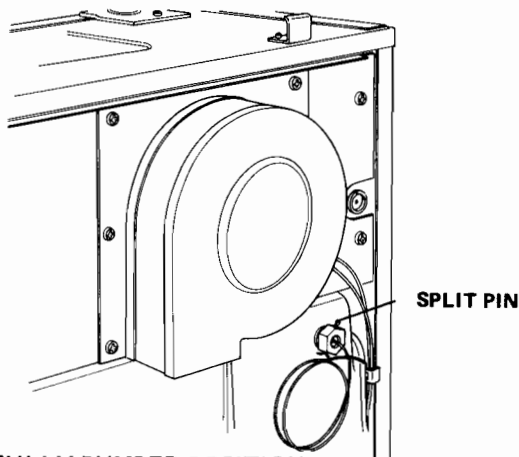

FIG. 21A FULLY PUMPED POSITION
1. Remove split pin retaining overheat thermostat (Fig. 21A) and pull bulb from pocket along with spacer, discard spacer and split-pin.